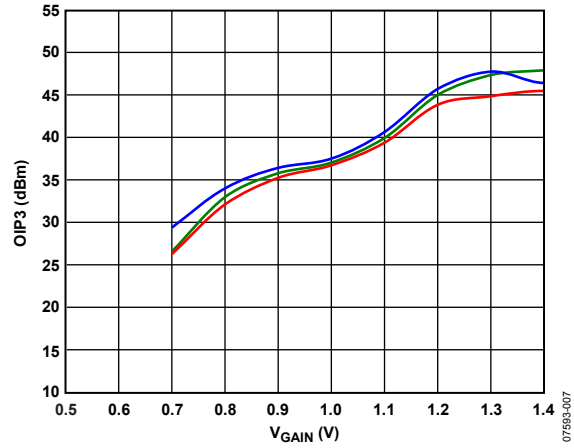
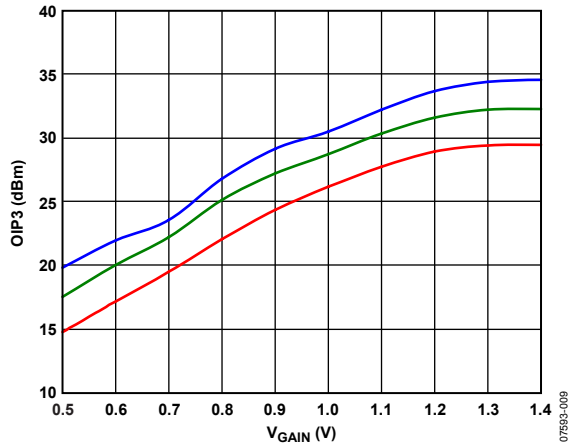

Figure 7. Output IP3 vs. V_{GAIN} at 100 MHz
Figure 9. Output IP3 vs. V_{GAIN} at 900 MHz
At high gain settings, the noise floor is set by the input stage, in which case the noise figure (NF) of the device is essentially independent of the gain setting. Below a certain gain setting, however, the input stage noise that reaches the output of the attenuator falls below the input-equivalent noise of the output stage. In such a case, the output noise is dominated by the output stage itself; therefore, the overall NF of the device gets worse on a dB-per-dB basis as the gain is lowered, because the gain is reduced below the critical value. Figure 7 through Figure 9 provide details of this behavior.
The 1 dB input compression point remains constant at 3 dBm through the majority of the gain control range, as shown in Figure 7 through Figure 9. The output compression point increases decibel for decibel with increasing gain setting. The noise floor is constant up to $V_{GAIN} = 1$ V where it begins to rise.